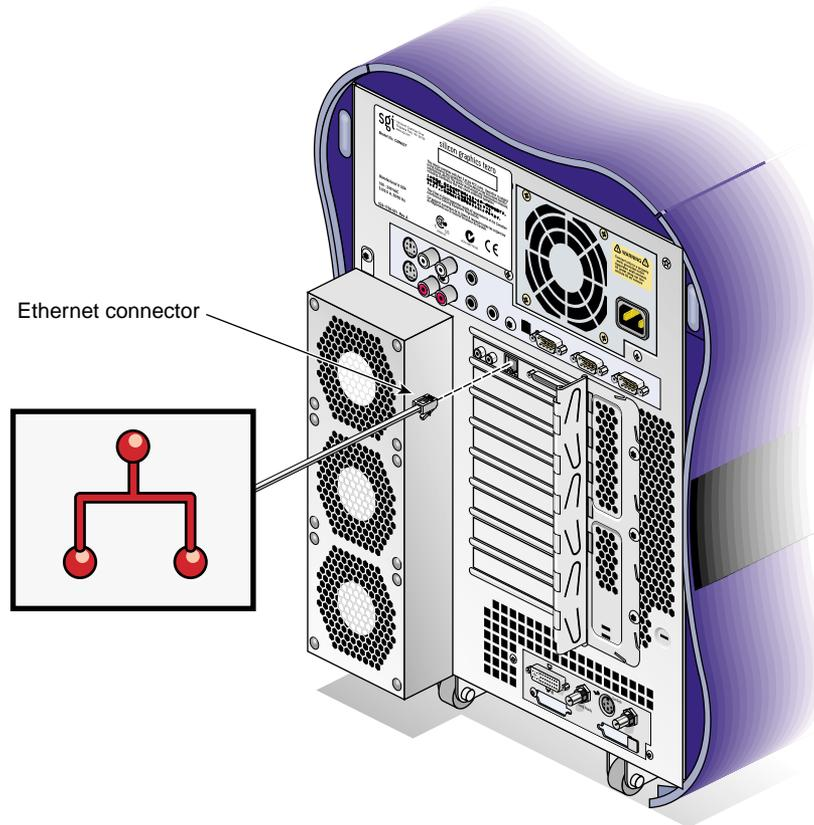

Figure 1-6 Connecting the Ethernet Cable
2. Connect the Ethernet cable to the Ethernet port on the IO9 card, as shown in Figure 1-6.